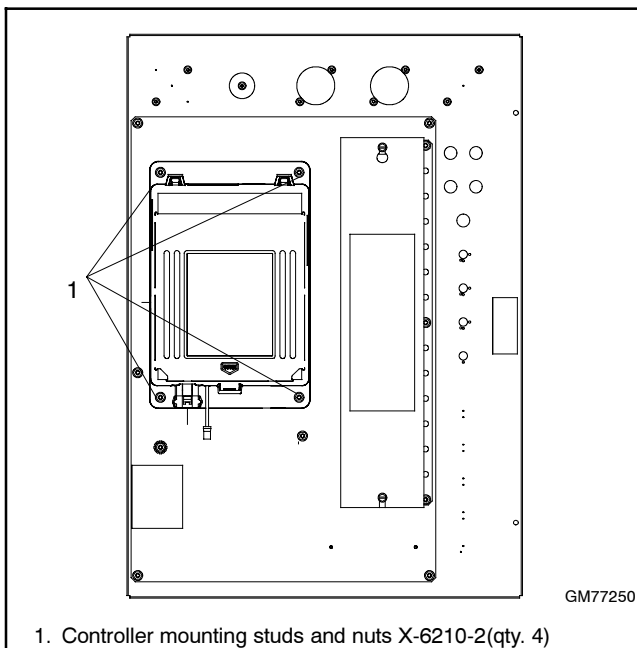

Figure 13 Controller Assembly Installation
15. Install the MPAC 1500 controller assembly (GM46733-1) onto the conversion kit mounting plate using four nuts X-6210-2. See Figure 13.